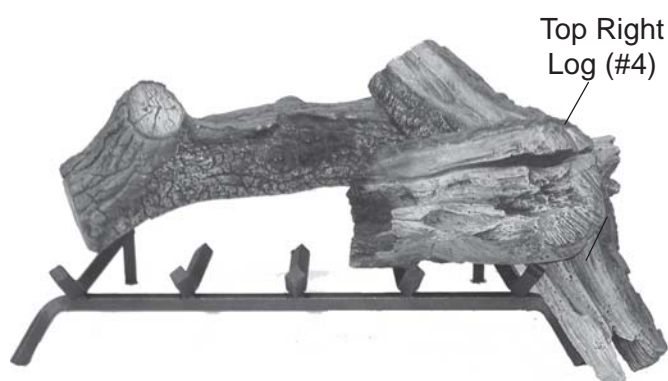

Figure 132 - Placing Top Right Log (#4)
4. Place Top Right Log #4 on Bottom Right Log #2 resting on grate. See *Figure 132*.